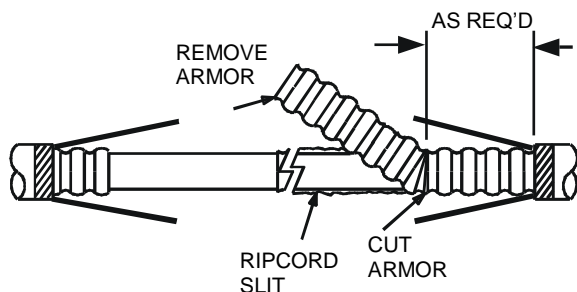

Figure 10 – Remove the armor from the core tube.
15. Separate the armor at the overlap and peel off the two halves of the corrugated metal to the required length (Figure 10).
16. Cut the corrugated metal as required (Figure 10).